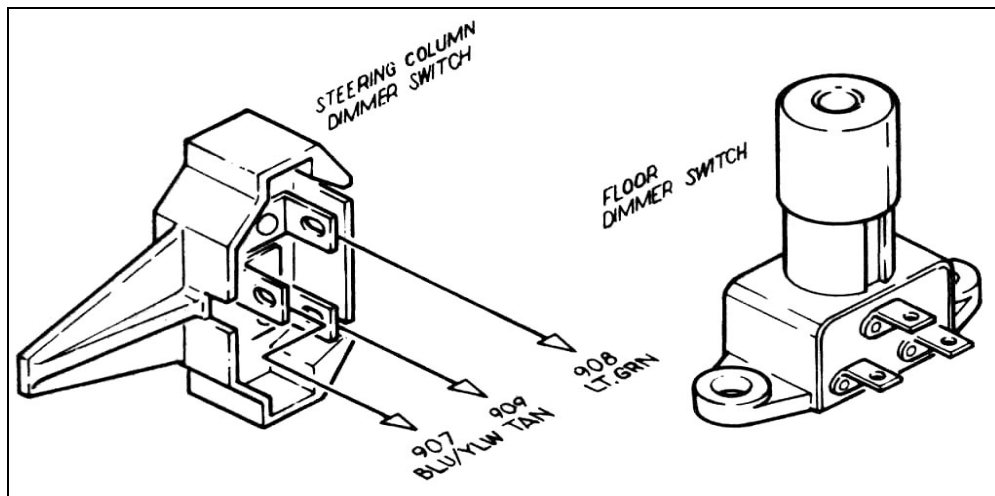

Figure 12-3 Dimmer Switches (Push Button Style – Painless Part #80150)
- 12.2 Connect the #'s 907,908 and 909 wires to the floor-mounted Dimmer Switch or column-mounted Dimmer Switch as shown in Figure 12-3